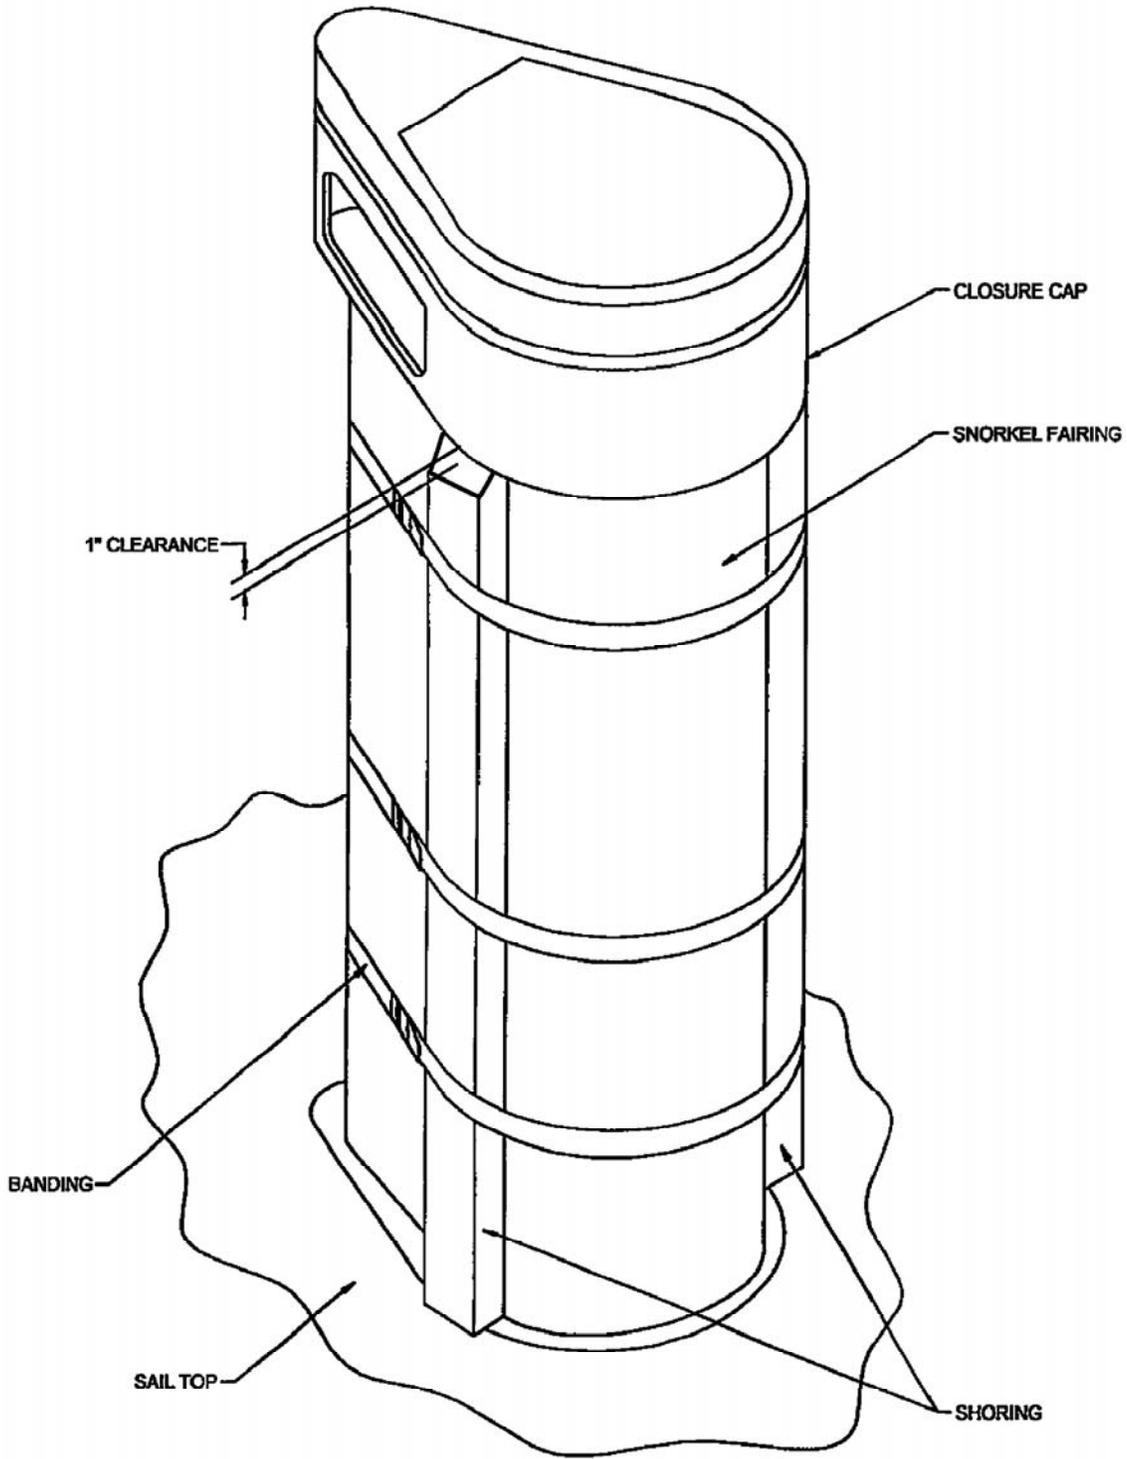

Figure 3-5 Installation of Snorkel Shoring
- e. Use steel banding to secure the shoring to the port and starboard of the snorkel mast. See Figure 3-5. Ensure